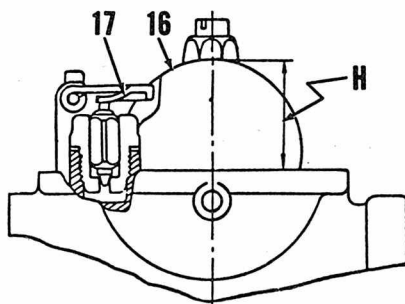

Fig. S2-2—Float level (H) is adjusted by bending tang (17). Make certain that both floats are the same.
(9) is #75 and pilot jet (14) is #35. Clip (5) should be installed in second groove from top of needle (6). Float height (H—Fig. S2-2) should be 0.98-inch.